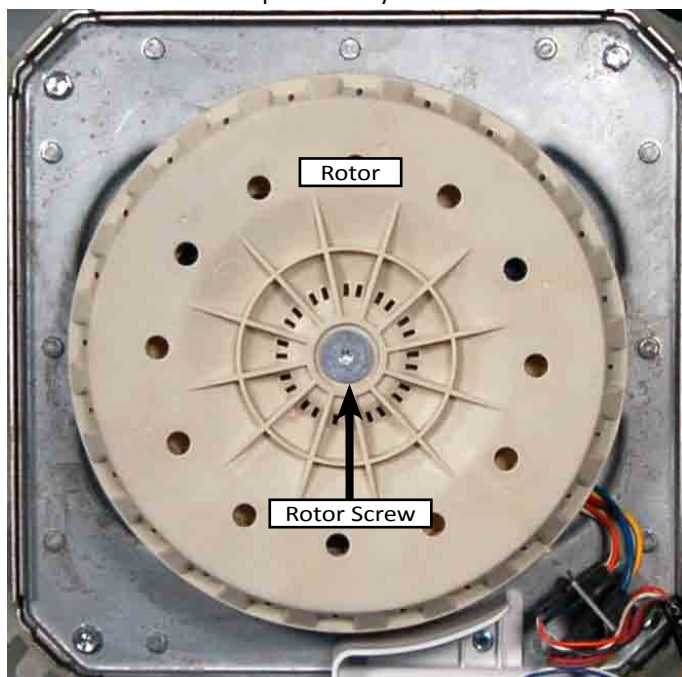

Figure 1
1. Use a 4mm Allen wrench to remove the rotor mounting screw (see Figure 1). Rock the rotor back and forth until the rotor has been pulled away from the stator.